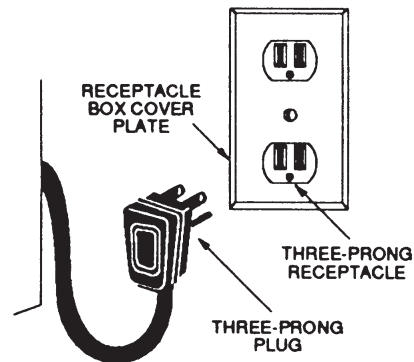

Figure 10: Recommended Grounding Method for 120V Models
Improper grounding or reverse polarization will cause malfunction (such as continuous sparking of the burner igniters). This can damage the appliance and can create a condition of shock hazard. If the circuit is not correctly grounded and polarized, it is the responsibility and obligation of the installer and user to have the existing receptacle changed to a properly grounded and polarized receptacle. This must be accomplished in accordance with all applicable local codes and ordinances by a qualified electrician. In the absence of local codes and ordinances, the receptacle replacement shall be in accordance with the National Electric Code. (See Figure 10.)
- Observe all governing codes and ordinances when grounding. In the absence of these codes or ordinances observe National Electrical Code ANSI/NFPA No. 70 current issue. See Figure 10 for recommended grounding method.
IT MUST BE PLUGGED INTO A MATING, GROUNDING TYPE RECEPTACLE THAT IS CONNECTED TO A CORRECTLY POLARIZED 120 VOLT CIRCUIT (See Figure 10).